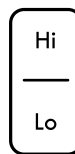

Fig. 2
3. To set power level press **Hi** or **Lo** keypad and if needed toggle the **Hi** or **Lo** keypads to adjust to the desired power level setting. Each touch of the **Hi** or **Lo** key pad will decrease or increase the power level by 1/2 from 9.5 through 3.0. Simmer power levels between 3.0 and 1.2 will decrease or increase by .2 increments. **Hi** (Fig. 2) is the highest power level. **Lo** (Fig. 3) is the lowest power level available.